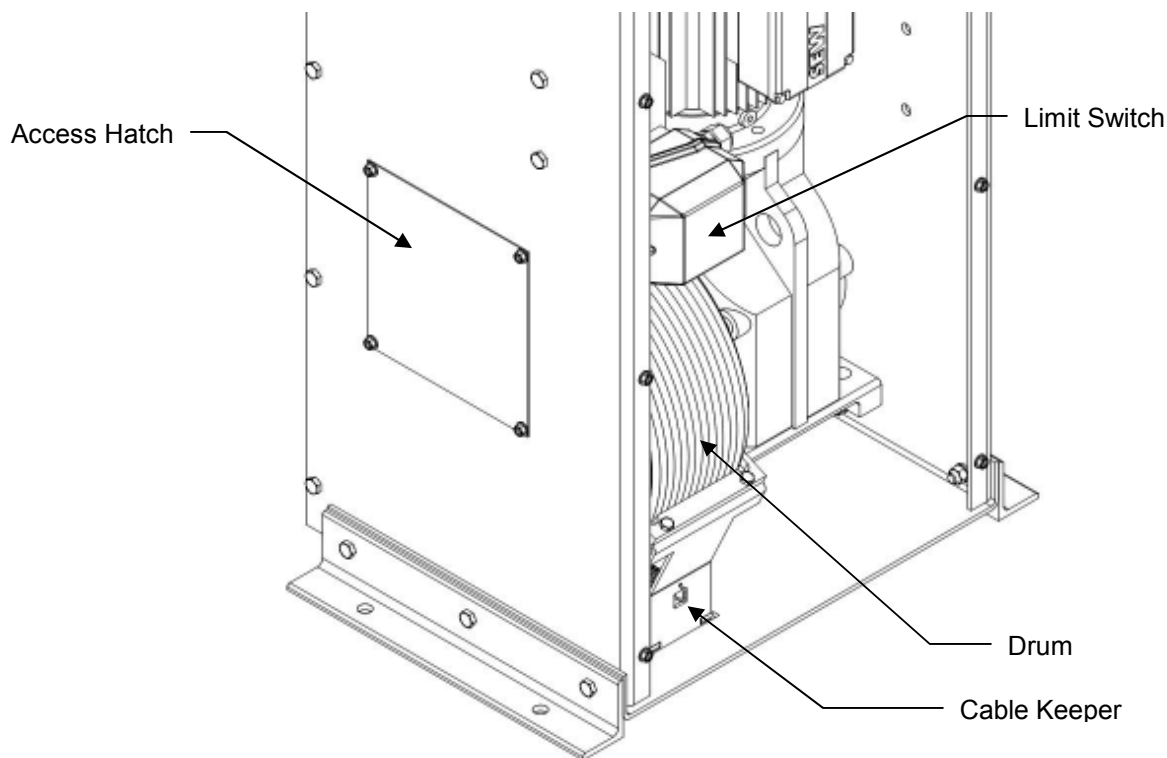

Figure 2 – Access Hatch Location
3. Wrap the cable around the grooved drum at least three (3) times (dead wraps). Be sure to wrap the cable the correct direction and not snag the cable on any internal components of the hoist.
6. Pull the end of the cable out through the access hatch (see Figure 2) and install swaged end stop per the manufacturer's instructions.